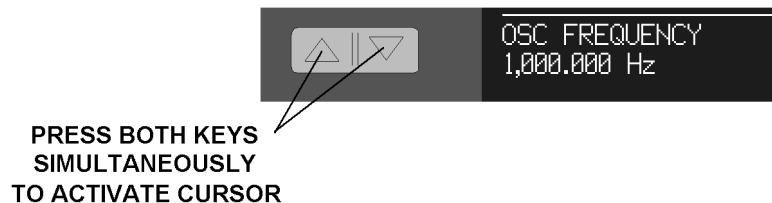

Figure 4-3, Active Cursor Activation
Step 1 Simultaneously press both sides of the   key adjacent to the control. In the example shown in figure 4-3 the internal oscillator frequency will be adjusted, since this is the control displayed adjacent to the keys. A cursor appears under one of the displayed digits (see also figure 4-4).